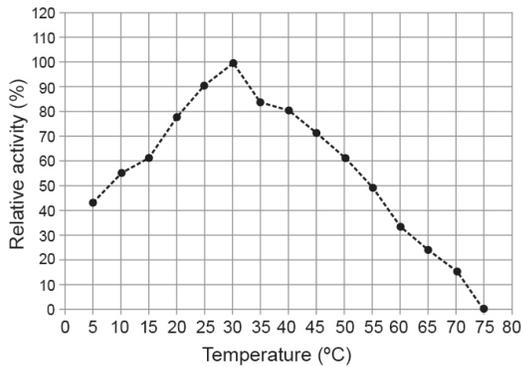

Figure 1. Amylase activity in *Bacillus subtilis*
3. The graphs below show the relative activity of α -amylase from two different species. Amylase is an enzyme that breaks down complex carbohydrates, like starch, into simple sugars that are used in cell respiration. Figure 1 shows data obtained using α -amylase samples from the bacterium *Bacillus subtilis*, found in the gut of termites across the southern United States.¹